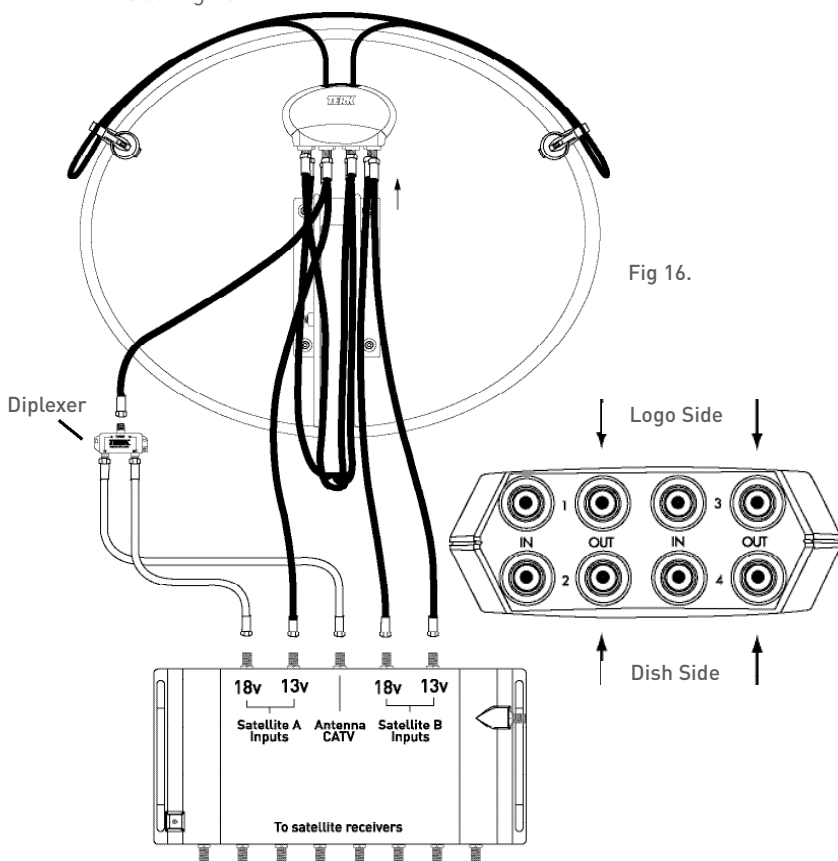

Fig 16.
3. Connect the satellite wire to the TV/SAT terminal of the diplexer. See Fig 16.
4. Use one of the supplied white 12" antenna cables to connect the "TV terminal" of the diplexer to the ANTENNA INPUT on the multiswitch. See Fig 16.
5. Use the other supplied white 12" antenna cable to connect the "SAT terminal" of the diplexer to the 18 volt (or Satellite "B" Terminal) of the multiswitch. See Fig 16.